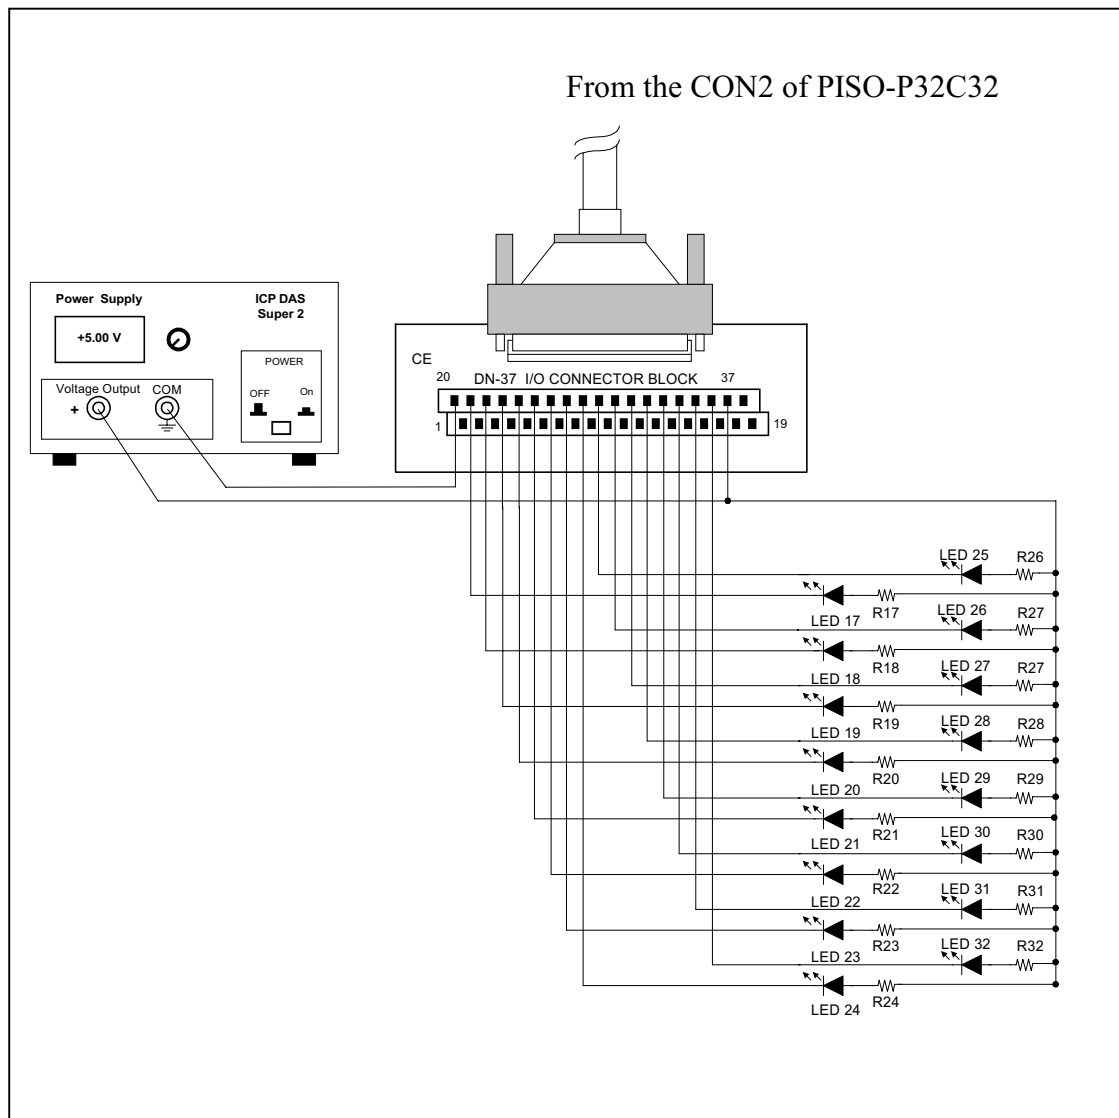

Figure 4-1-3. The circuit diagram of external device 2 for the digital outputs of PISO-P32C32
- The circuit diagram of external device 2: Refer to Figure 4-1-3